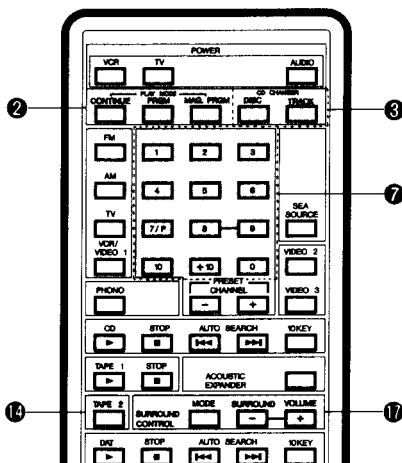

Fig. 14, 15
**CD AUTO CHANGER operation (Fig. 14)**
**② PLAY MODE**
⑰ **MODE** : Press this button to shift the surround processor's selector from its current mode to another.
⑰ **SURROUND VOLUME**  $\square$   $\square$  : For raising or lowering the output levels of the front and surround speakers, in order to enhance the surround effect. Pressing  $\square$  button lowers and pressing  $\square$  button raises the volume.
**Fonctionnement du lecteur/changeur de disques compacts (Fig. 14)**
**② Mode de lecture (PLAY MODE)**